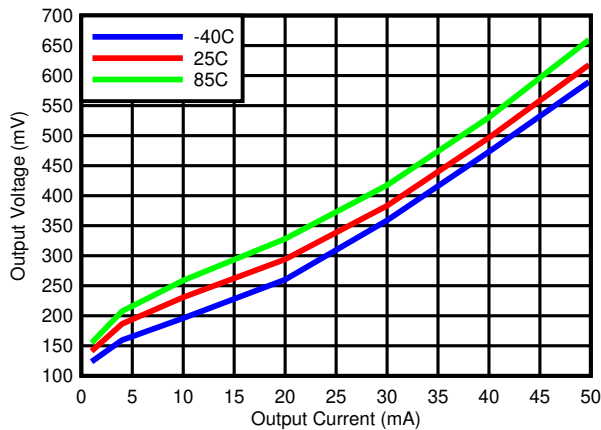
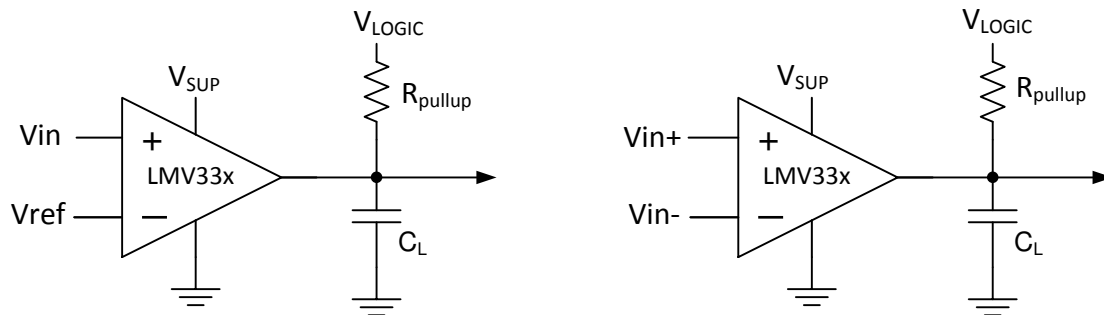

图 6-3. Output Voltage vs Output Current
图 8-1. Typical Application Schematic
The output consists of an open drain NPN (pull-down or low side) transistor. The output NPN will sink current when the positive input voltage is higher than the negative input voltage and the offset voltage. The V_{OL} is resistive and will scale with the output current. Please see 图 6-3 for V_{OL} values with respect to the output current.
Output current is determined by the pull-up resistance (R_{pullup}) and V_{logic} voltage, refer to 图 8-1. The output current will produce a output low voltage (V_{OL}) from the comparator. In which V_{OL} is proportional to the output current. Use 图 6-3 to determine V_{OL} based on the output current.
- R_{CE} can be determine by taking the slope of 图 6-3 in it's linear region at the desired temperature, or by dividing the V_{OL} by I_{out}